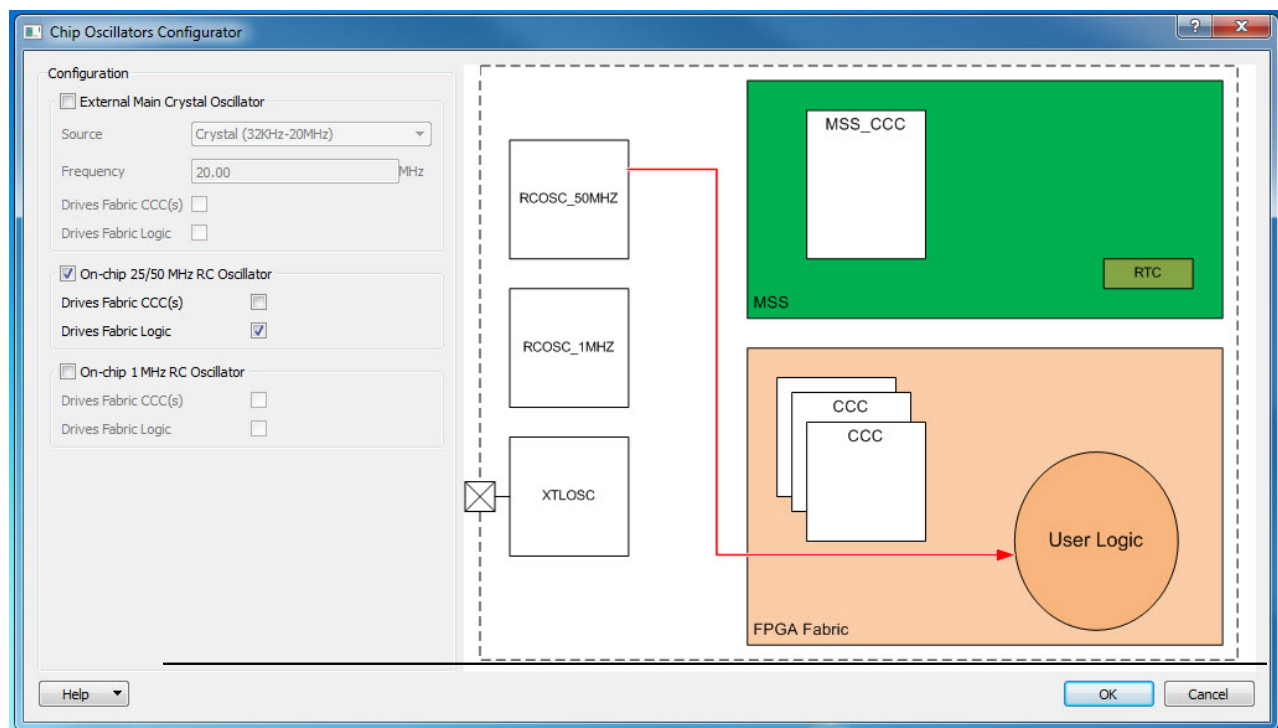

Figure 25 • Chip Oscillators Configurator
2. Configure this core such that the oscillator drives the FPGA fabric, as shown in Figure 25.